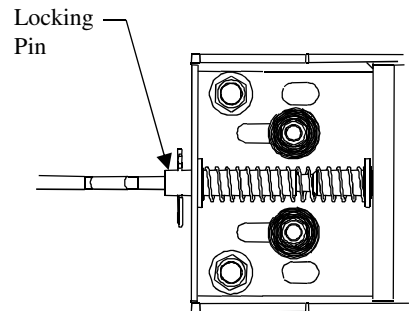

Figure 2
9. Install the U-Bolts from the inside of the bed (see figure 2).